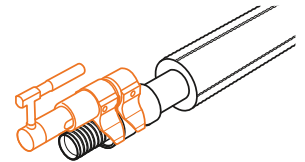

Fig. B10.3.5
8. Using the pump, press the outer sleeve until it is snug with the inner coupler (Fig. B10.3.5). During the pressing process, please ensure that the inner coupler is firmly located inside the pipe without displacement.